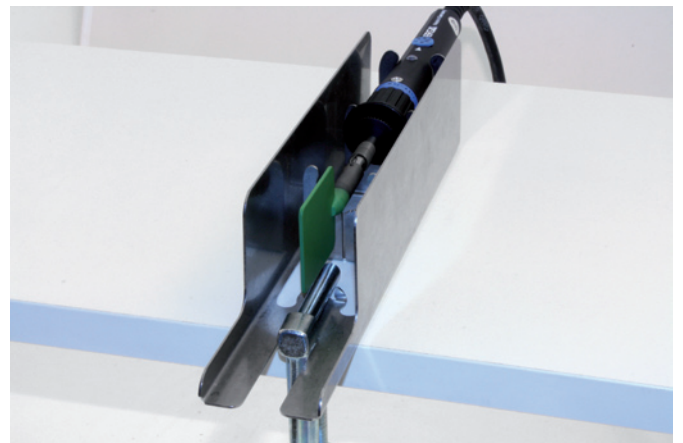

Fig. 6
- 6 For cooling down or brief intervals the soldering iron can be drawn to the rear and engaged in the tothing of the handle (Fig. 6).